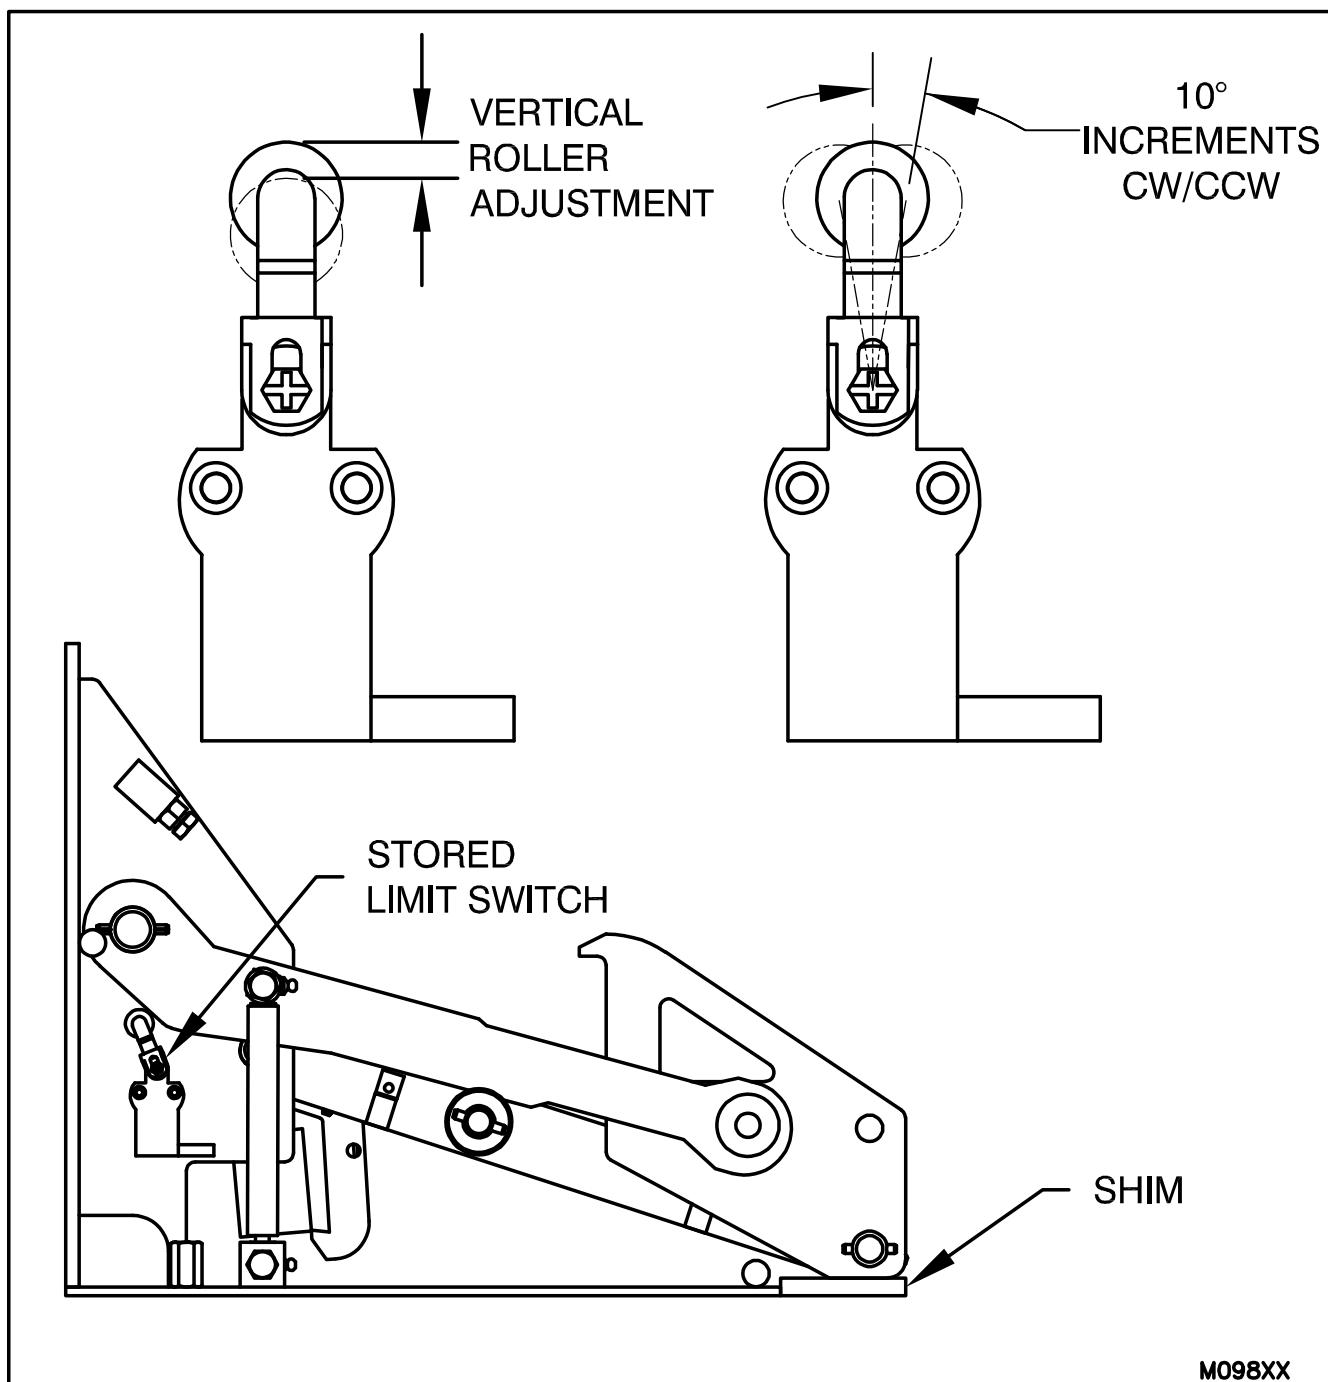

Figure 24: Adjusting the Stored Limit Switch
- b) Raise the restraint and place a 1/4" shim under the hooking arm (See "Figure 24: Adjusting the Stored Limit Switch" on page 26).